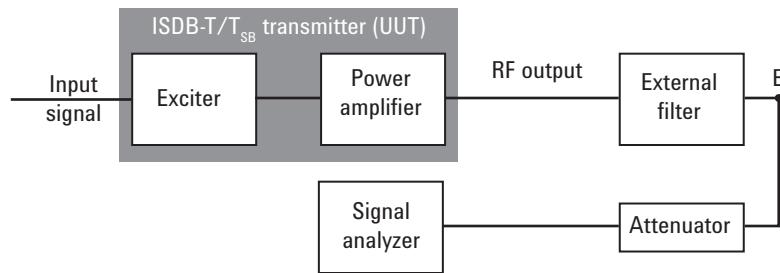

Figure 33. Diagram for spectrum mask measurement on an ISDB-T/T_{SB} transmitter without output filter
Method 2: If the transmitter does not have an output filter, an external filter with a band-block filter frequency response should be added after the transmitter for the measurement arrangement, as shown in Figure 33.
2. Measure the signal transmitted at point B as shown in Figure 33.
3. Apply amplitude correction on the spectrum value measured in (2) using the filter's response from (1).